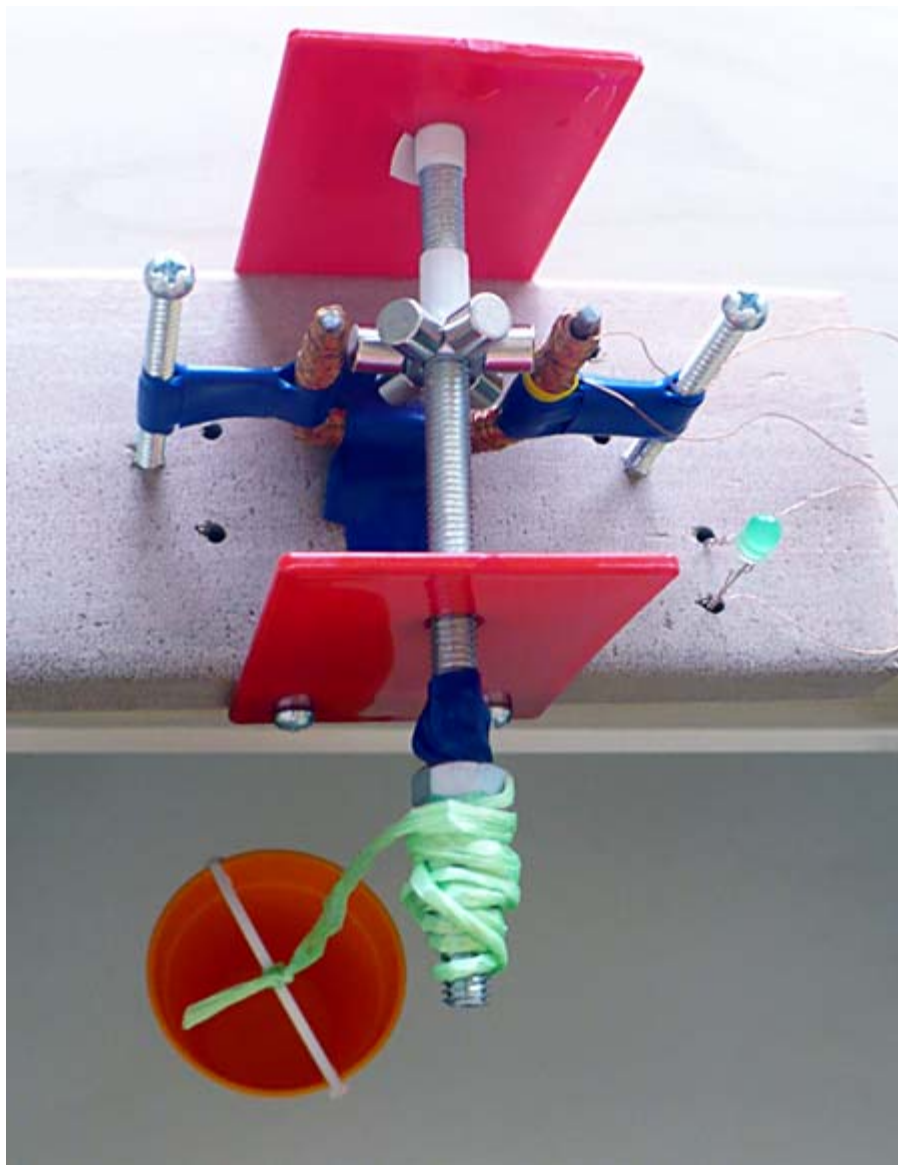

Figure 21. Electric generator using a bucket in which mass can be placed to create rotation.
3. Attach the other end of the string securely to the shaft using the hex nut placed outside the red panel, as shown in Figure 21, below.
- d. Make sure the string does not slip, but winds up around the shaft if you turn the shaft, as shown in Figure 21, below.
4. Place the generator at the edge of a table, as shown in Figure 21, above. This allows the bucket to freely roll down, creating a rotation of the shaft.